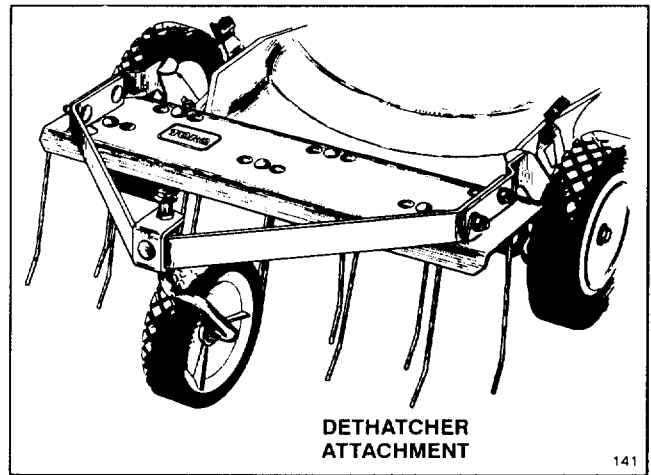

Figure 36
3. **Dethatcher Kit, Model No. 59131**—Installs in minutes. Front mounted for easy maneuverability. Spring tines loosen thatch for clean vacuuming into grass bag (Fig. 36) and convenient disposal.